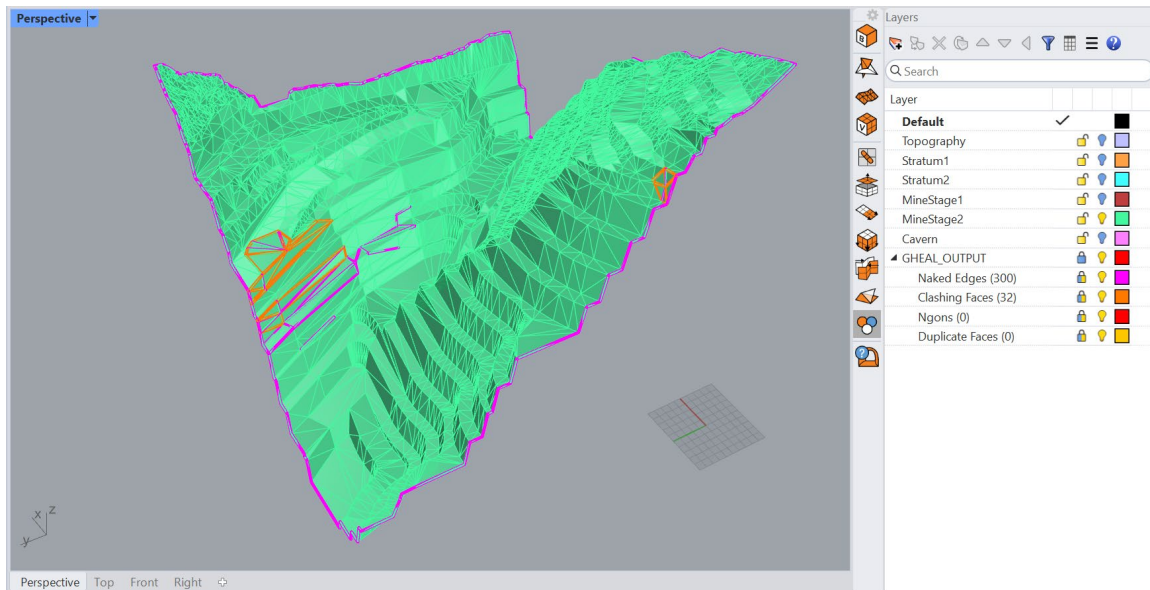

Figure 92: Naked edges and clashing revealed by GHeal in the “MineStage2” mesh.
3. Even before the mesh reduction, the “MineStage2” mesh contained many naked edges and clashing faces (this can be easily checked with **GHeal**→*ShowErrors*). After the mesh reduction most of these issues are still present; use **GHeal**→*ShowErrors* to reveal them (Figure 92). The issues can be fixed automatically by using **GHeal**→*AutomaticHeal*. In this case, keeping all the parameters at the default values and selecting *IssuesToFix=All*, resolves all the problems. After the operation, delete all the layers and objects in “GHEAL_OUTPUT”.